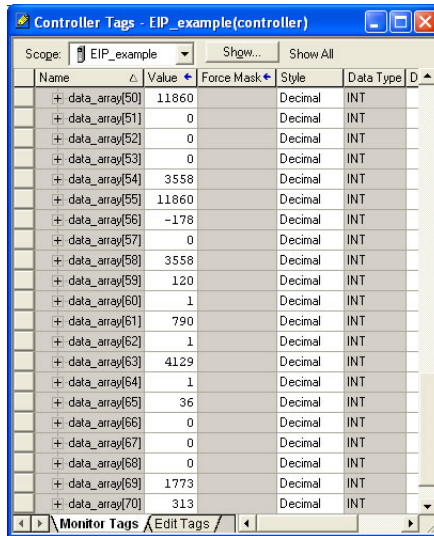

Figure 111: Viewing the Register Values
- c) Expand the data_array tag. Refer to Figure 111.
- d) 21 register values starting at register #2050 are being continuously read from the interface card and placed in the 21 sequential offsets of data_array starting at the 50th offset (data_array[50]). In Figure 111, we can see that data_array[50] (function code M01 / register 2050 / per-unit frequency reference – final command) has a value of 11860 (11860/20000 = 59.3% of max frequency), data_array[58] (function code M09 / register 2058 / output frequency) has a value of 3558 (35.58Hz), etc.